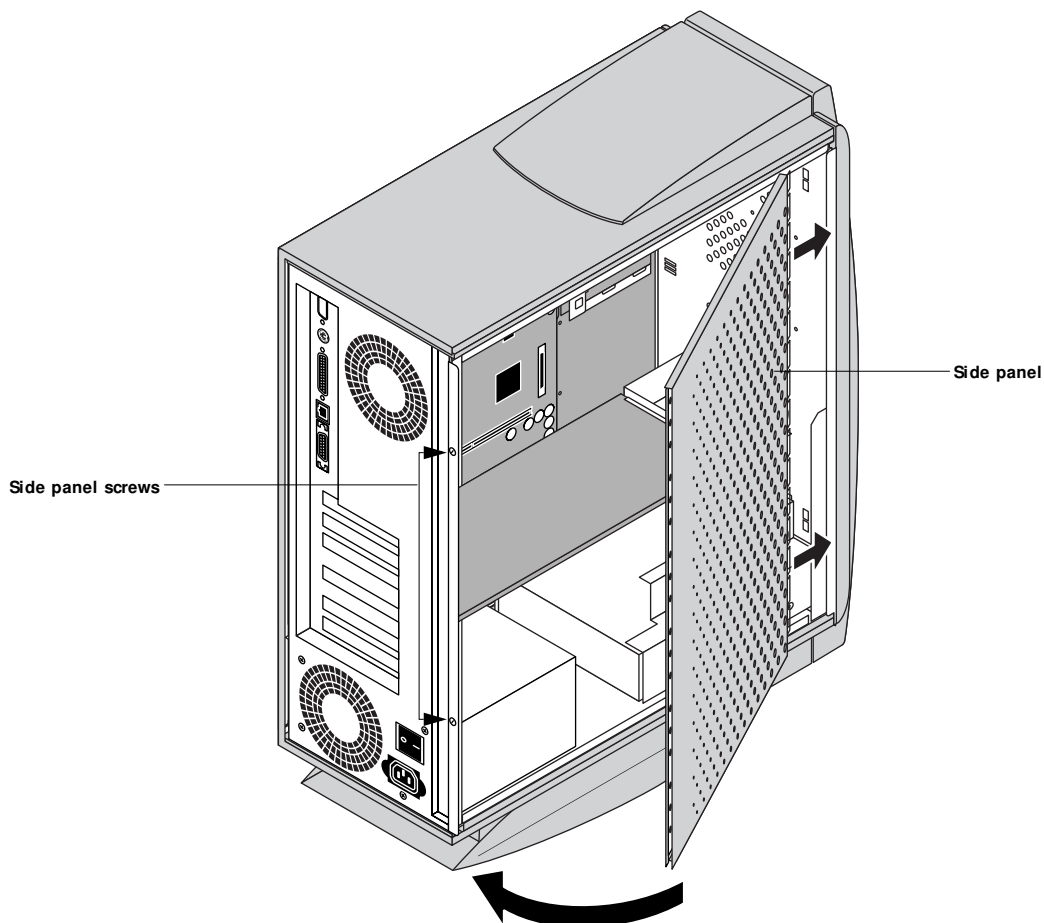

FIGURE 4-7 Replacing the side panel
4. Place the side panel onto the Fiery ZX so the grooves on the edge of the side panel fit into the grooves in the tray (see Figure 4-7).